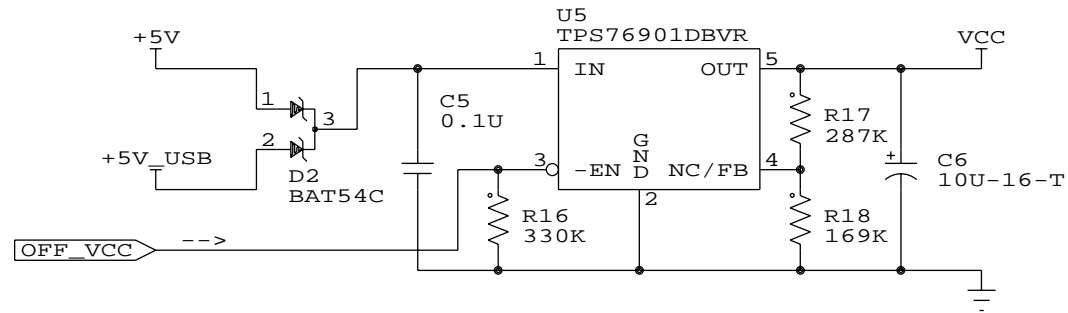

Figure 3: Multiple 5V Sources Feeding Ultralow-power 3.3V LDO Linear Regulator
- * Because the Flight Module runs at 3.3V, and system power is supplied at 5V, we have the opportunity to feed the 3.3V LDO from a multitude of 5V sources, via a simple Schottky diode drop. Therefore the Flight Module is powered from system 5V or USB 5V, whichever is present (Figure 3).